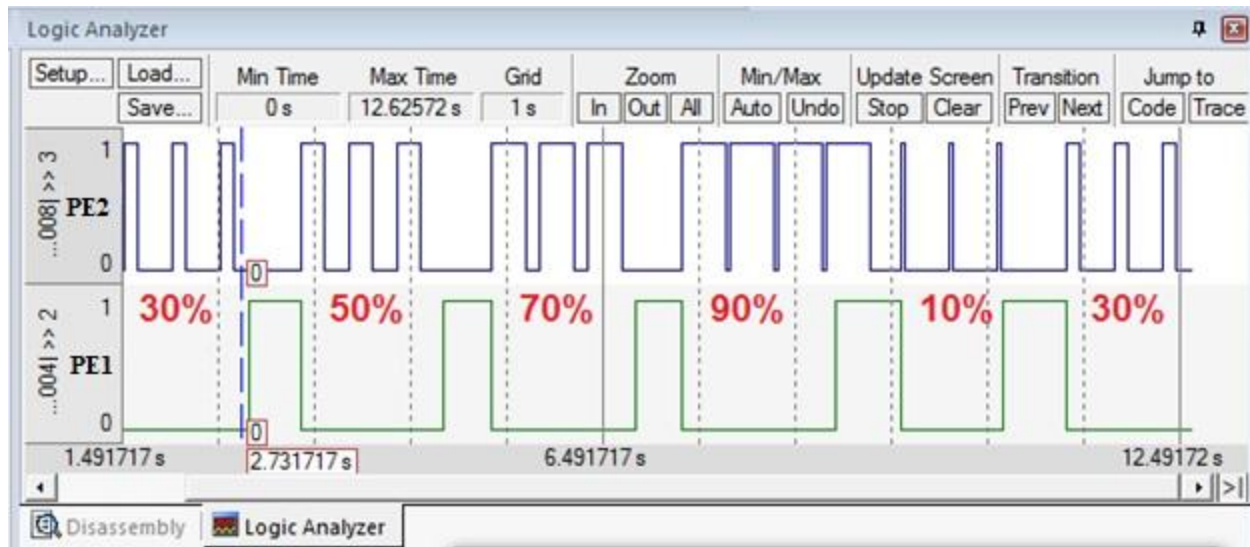

Figure 3.1d. Pulse width modulation. PE2 is output
4. Screenshot of Keil logic analyzer showing your debugging in the simulator, like figure 3.1d or 3.1.e